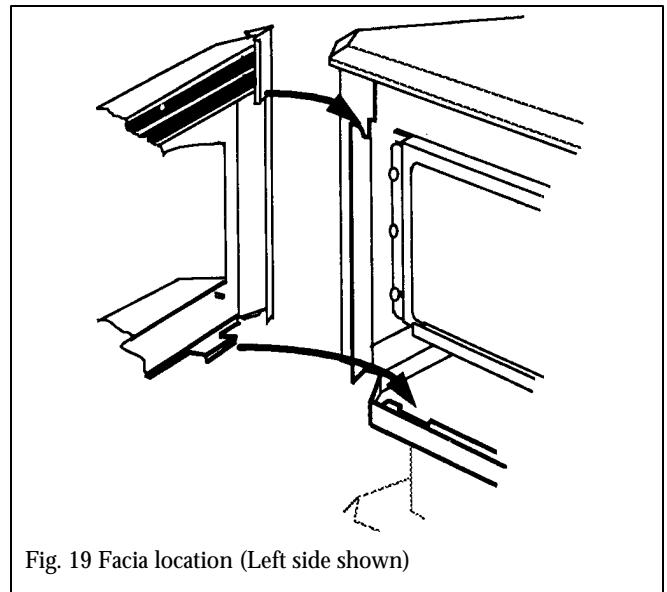

Fig. 19 Fascia location (Left side shown)
15.2 Locate the fascia unit to the appliance front - see figure 19. Locate at the top corners and at the bottom. We suggest the following order: